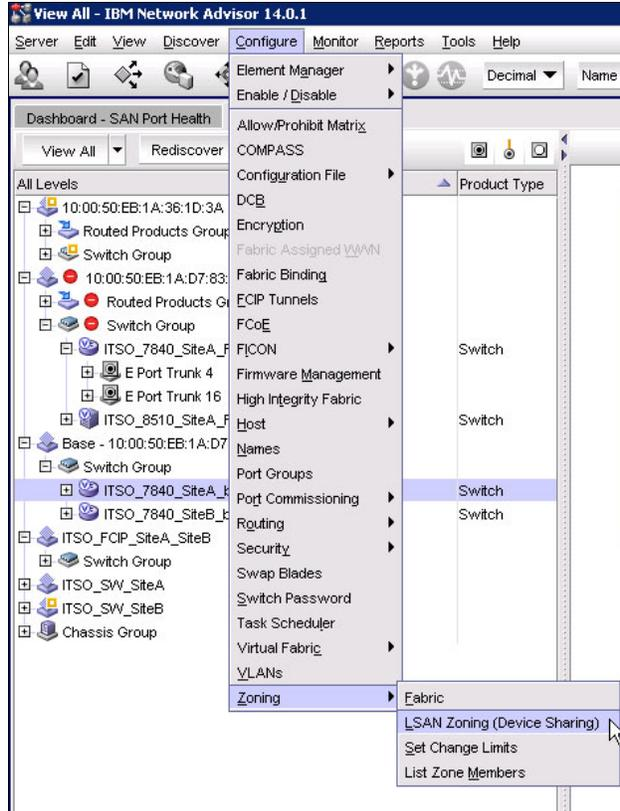

Figure 6-50 Menu for LSAN Zoning
1. Select a backbone fabric from the product list, and then click **Configure** → **Zoning** → **LSAN Zoning (Device Sharing)** as shown in Figure 6-50.